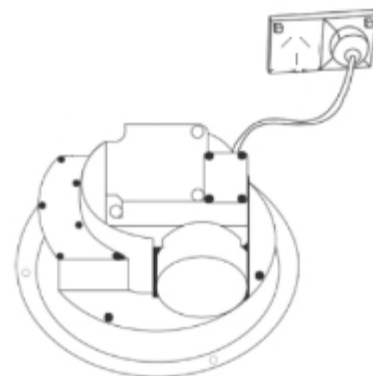

Fig. 3 – Connect the power
8. Insert the two pin power cable into the ceiling hole and plug it into the power point socket in the ceiling as previously installed by a licensed electrical contractor. (Fig 3)